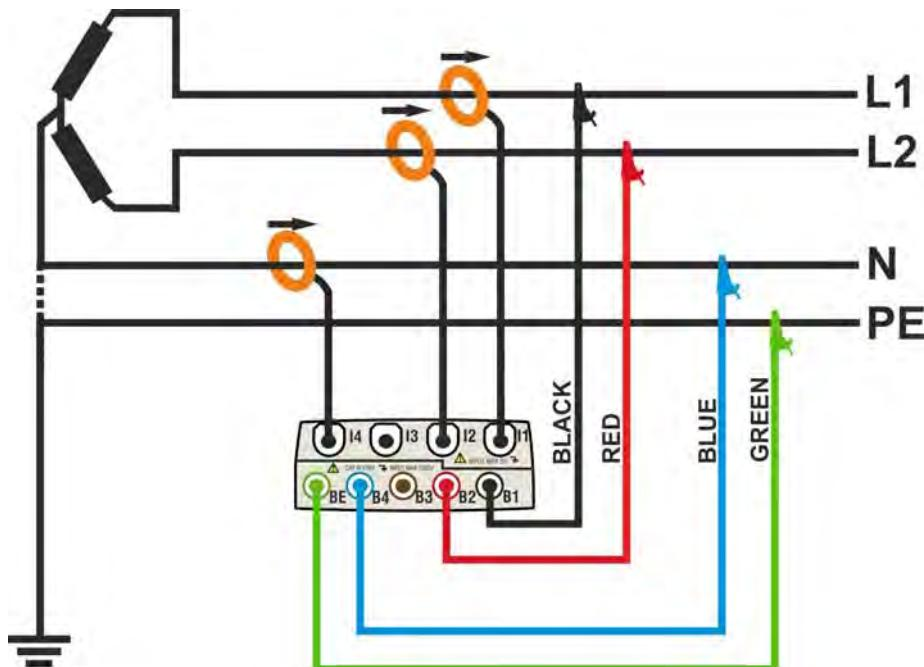

Fig. 142: Meter connection in a two phase 3-wire 3P2E system – ENG type
2. Connect voltage test leads on Phases L1, L2, N and PE cables considering the colours as shown in Fig. 142
3. Connect the transducer current clamps on Phase L1, L2, N cables as shown in Fig. 142 respecting the clamp's arrow direction indicating the current standard sequence from generator to load. **On Real Time Values' section screens (selecting a 3 wire system preliminarily) always verify the positive value of Active Power and the power factor relative to load which should be normally inductive** before starting a recording. Reverse the clamp by 180 degrees on cables in case of negative readings.